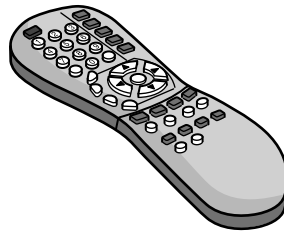

Fig. 5
- 7 Fig. 5 shows a remote control.